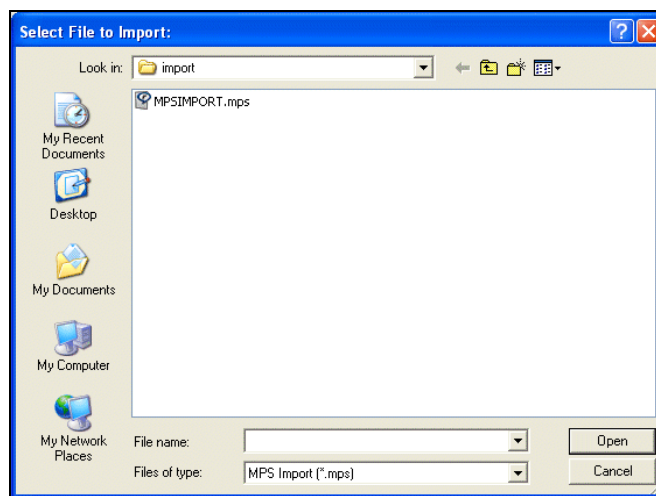

Fig. 56 — MPS import file browser
3. A window is displayed to select the MPS file for import (Fig. 56). The default import directory is C:\MMCP\IMPORT. However, the user may browse to another directory to locate the import file. Double click on the file name to select it. Import files must contain a “.mps” suffix for the filename.